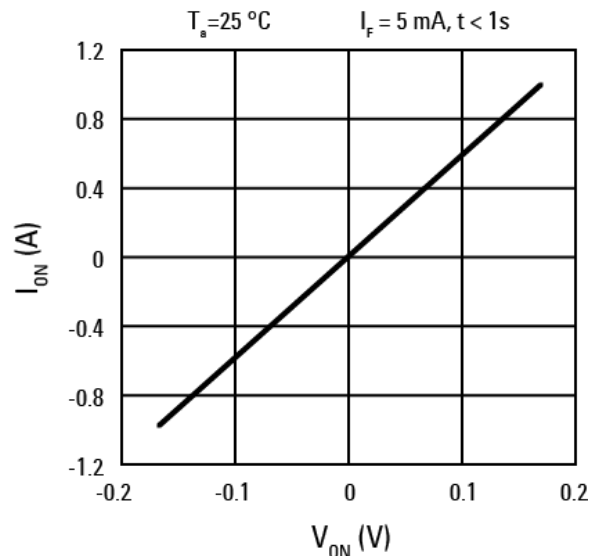

Fig. 1 $I_{ON} - V_{ON}$
- Fig. 1 shows a photorelay output current – voltage characteristic which is equivalent to contact resistance characteristics of mechanical relay. The greater slope of this line means smaller R_{ON} value.